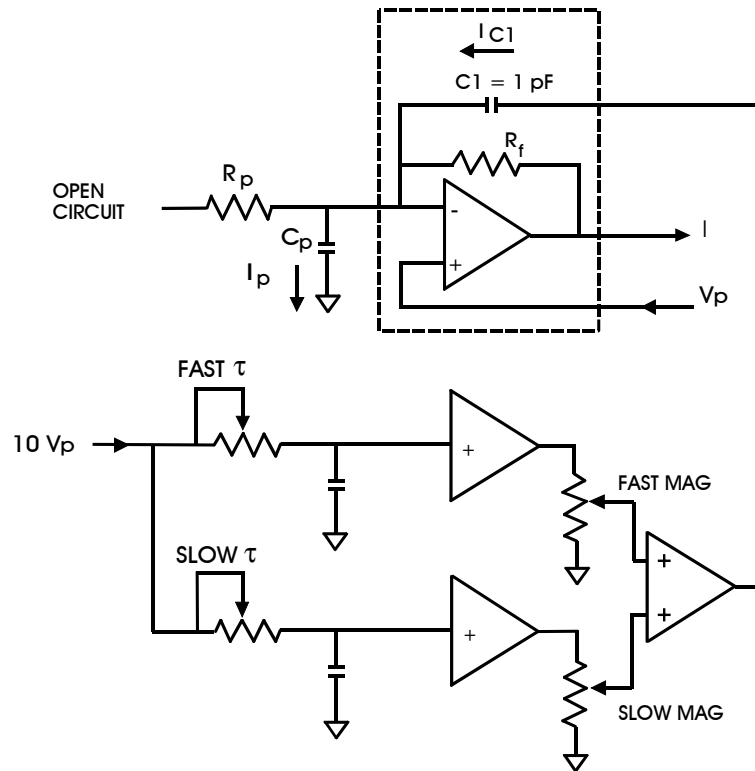

Figure 4.6. Pipette capacitance compensation circuit.
A simplified description of the fast and slow compensation circuitry is shown in Figure 4.6. When the pipette command potential (V_p) changes, current I_p flows into C_p to charge it to the new potential. If no compensation is used, I_p is supplied by the feedback element (R_f) resulting in a large transient signal on the output (I). By properly setting the fast and slow magnitude and τ controls, a current (I_{C1}) can be induced in capacitor $C1$ (connected to the headstage input) to exactly equal I_p . In this case R_f needs to supply no current and there is no transient on the output.